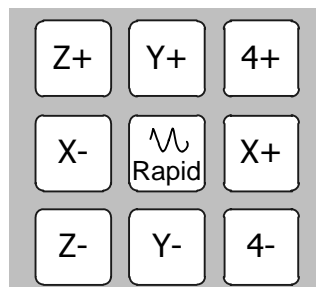

Fig. 1-10 Axis Direction Keys
- (8) Axis direction keys are used for manual control of each axis movement in jog mode or jiggle mode. See Fig. 1-10 for concrete keys. How to use key **Rapid**: In manual mode, when any axis direction key and key **Rapid** are pressed at the same time, the axis moves at manual high speed. When any axis direction key is pressed alone, the axis moves at jog speed.